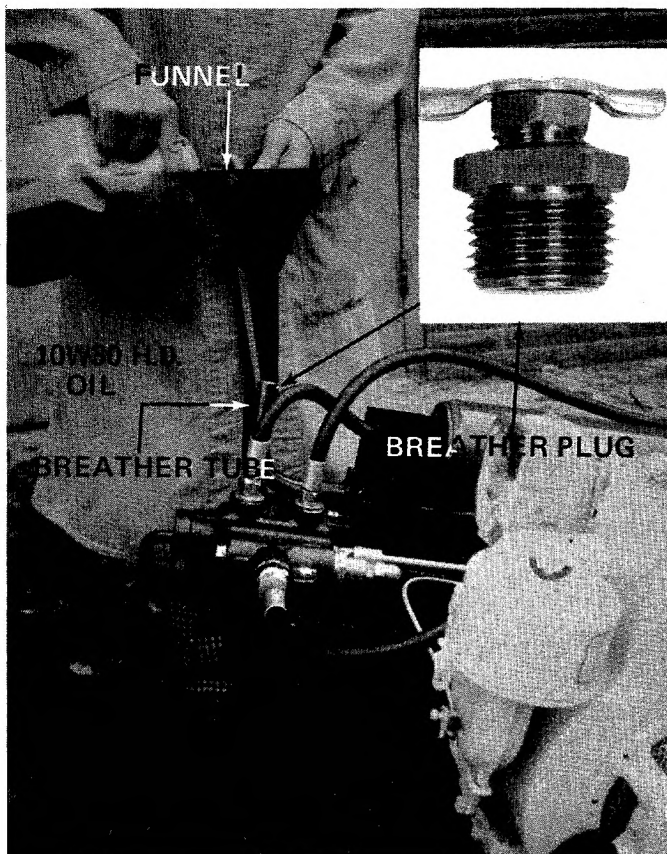

FIGURE 16
5. Remove the breather plug from breather tube. See figure 16. Pour 2-1/2 gallons of 10W30 H.D. oil ONLY into breather tube.